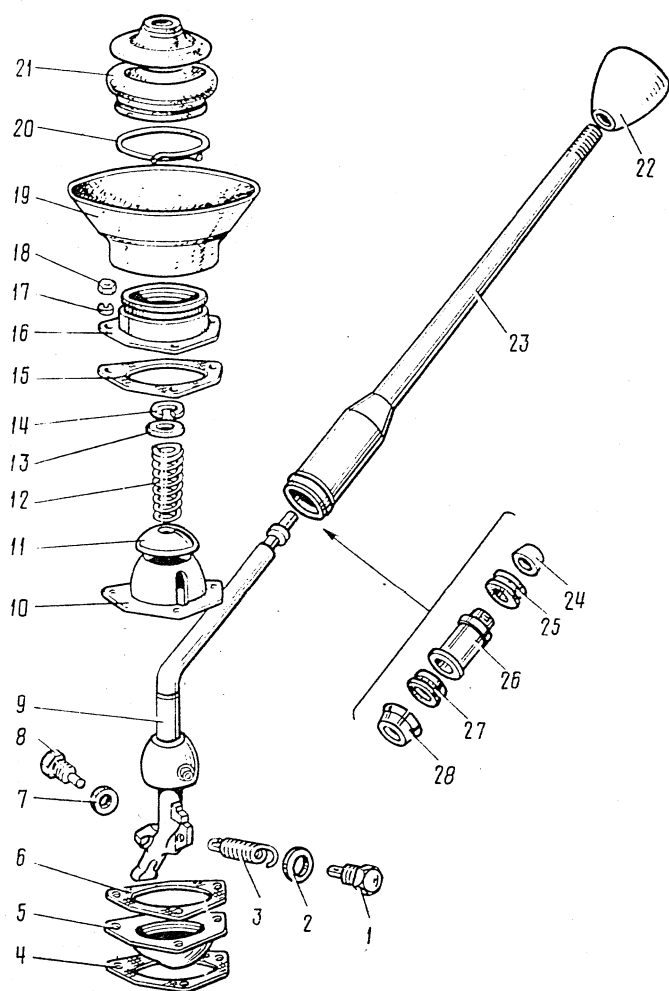

Fig. 3-29. Gearshift Lever Parts:
- remove cup 19 (Fig. 3-29) and boot 21 of the lever with its clamp, take off locking ring 14, washer 13, spring 12 and spherical washer 11;